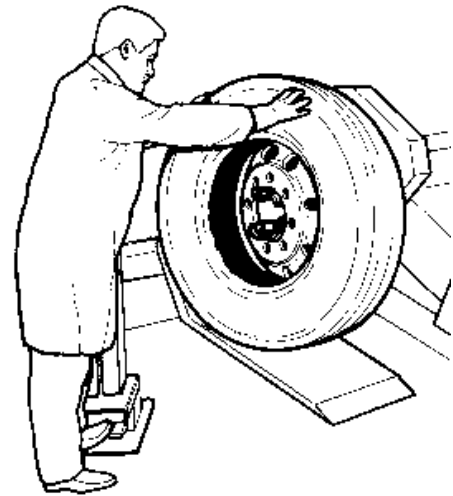

Fig.23
8. Move to the front of the tire and hold it with both hands in the last part of demounting operation to prevent the tire from falling or rolling away out of control (Fig.23).